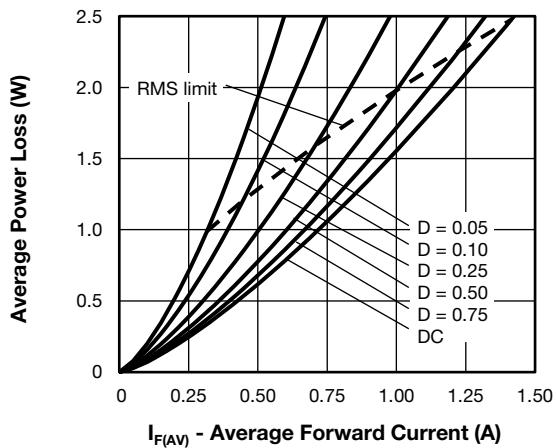

Fig. 5 - Forward Power Loss Characteristics
- (1) Formula used:  $T_C = T_J - (P_d + P_{dREV}) \times R_{thJC}$ ;
- $P_d$  = forward power loss =  $I_{F(AV)} \times V_{FM}$  at  $(I_{F(AV)}/D)$  (see fig. 5);